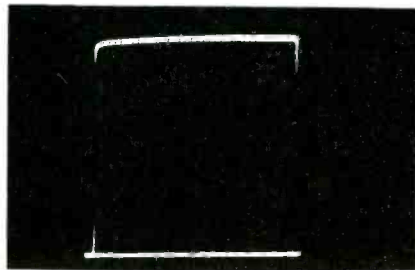

Fig. 4—Waveform without standing waves.
A. If a demodulator-probe check is being made of the standing-wave pattern on the lead-in, the match condition is indicated by the lack of standing waves, as illustrated in Fig. 4.